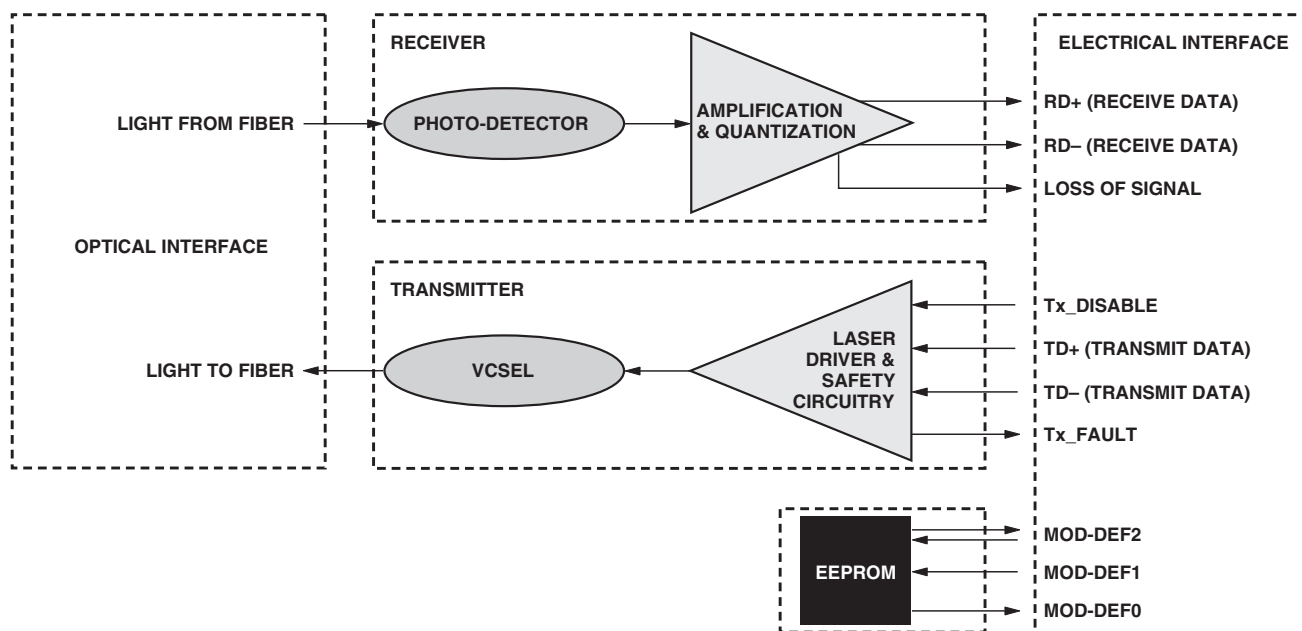
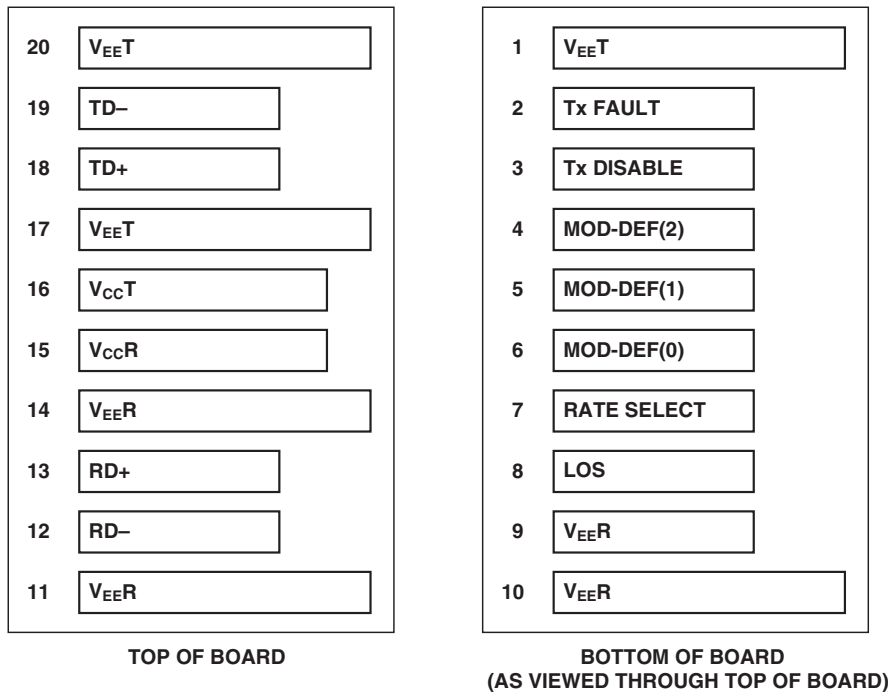

Figure 1. Transceiver functional diagram.
Figure 2. Connection diagram of module printed circuit board.
Figure 1 illustrates the major functional components of the HFBR-5720AL/ALP. The connection diagram of the module is shown in Figure 2. Figure 7 depicts the external configuration and dimensions of the module.
The HFBR-5720AL/ALP can be installed in or removed from any MultiSource Agreement (MSA)-compliant Small Form Pluggable port regardless of whether the host equipment is operating or not. The module is simply inserted, electrical interface first, under finger pressure. Controlled hot-plugging is ensured by design and by 3-stage pin sequencing at the electrical interface. The module housing makes initial contact with the host board EMI shield mitigating potential damage due to Electro-Static Discharge (ESD). The 3-stage pin contact sequencing involves (1) Ground, (2) Power, and then (3) Signal pins, making contact with the host board surface mount connector in that order. This printed circuit board card-edge connector is depicted in Figure 2.
Avago's HFBR-5720AL/ALP fiber-optic transceiver is designed to accept industry standard differential signals. In order to reduce the number of passive components required on the customer's board, Avago has included the functionality of the transmitter bias resistors and coupling capacitors within the fiber optic module. The transceiver is compatible with an "AC-coupled" configuration and is internally terminated. Figure 1 depicts the functional diagram of the HFBR-5720AL/ALP.